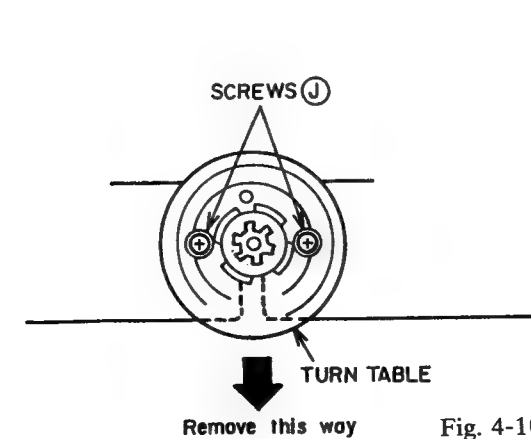

Fig. 4-10
- 1) Remove two fixation SCREWS ⑩ of the SPINDLE MOTOR through the hole on the TURN TABLE as shown Fig.4-10.